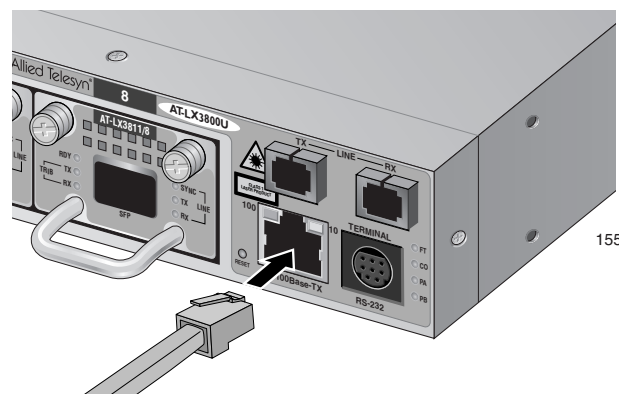

Figure 45. Connecting a Cable to the 10/100Base-T Port
1. Connect a twisted pair cable to the 10/100Base-T port on the front of the chassis, as shown in Figure 45.